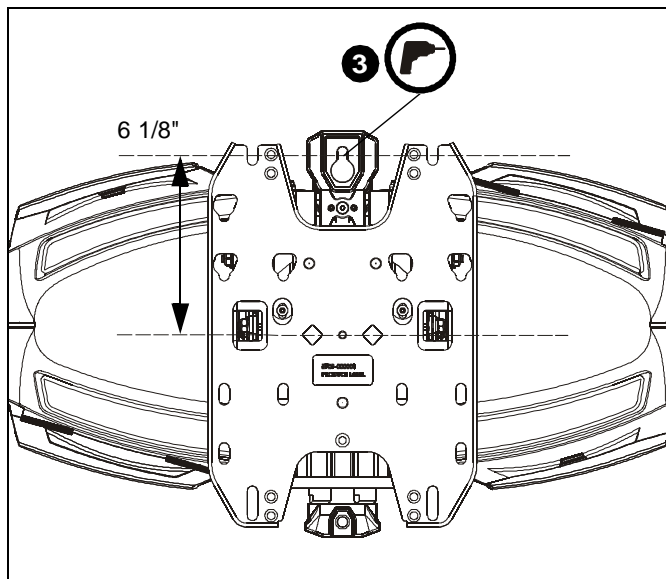

Figure 16
2. Measure 6 1/8" above desired center line and mark a hole at desired mounting location. (See Figure 16)
NOTE: Hold mount up to wall at desired mounting location if unsure about where the center line will be. The center line of the mount will coincide with the center line of the display. (See Figure 16)
3. Drill one 3/8" hole at location marked in Step 2. Hole should be 2 1/2" in depth. (See Figure 16)